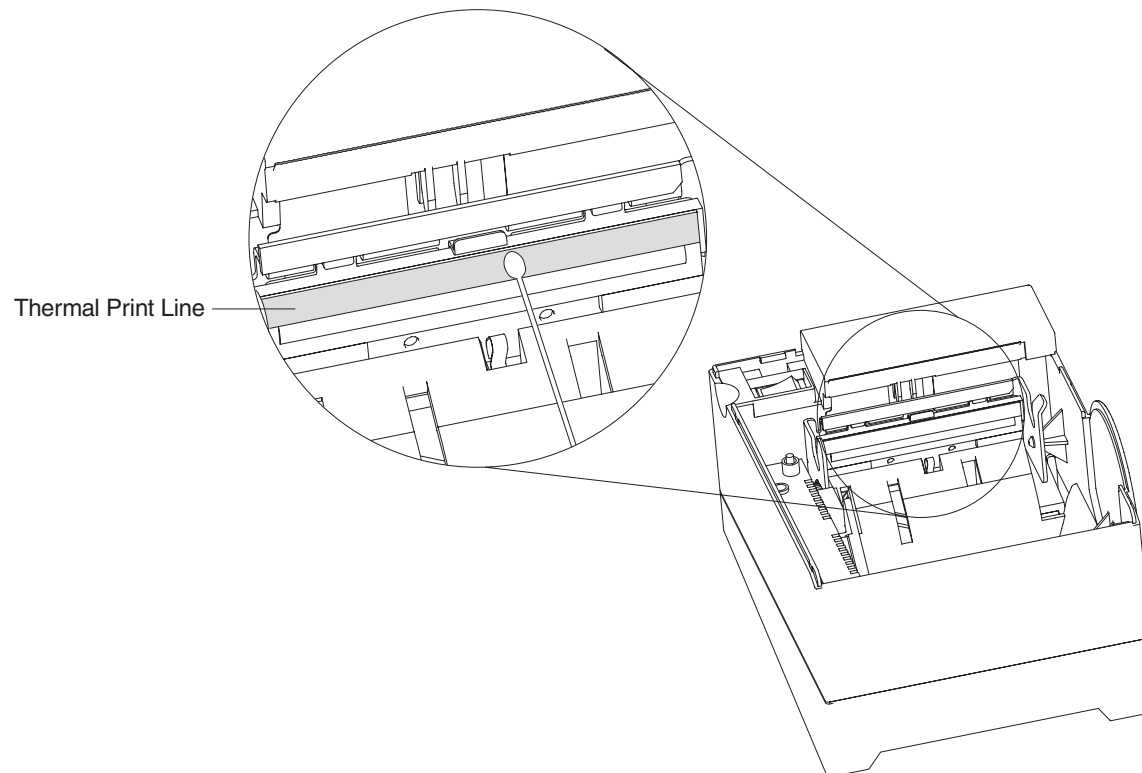

Figure 42. Print head and print line area (Models TF6 and TM6)
2. Using a cotton swab soaked in isopropyl alcohol, gently wipe the print head several times on its print line and on the surrounding area. See Figure 42.